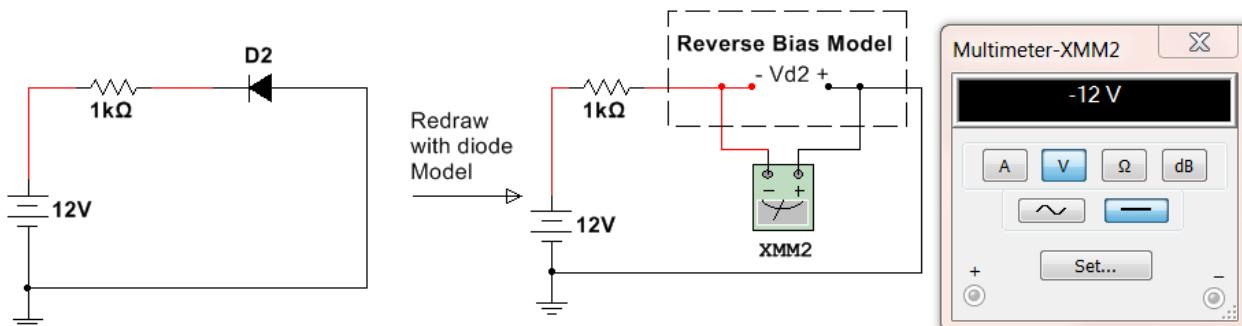

Figure 6.5: Circuit for Example 6.2
- $V_{D2} = -12$  V is verified in Multisim in Figure 6.5.